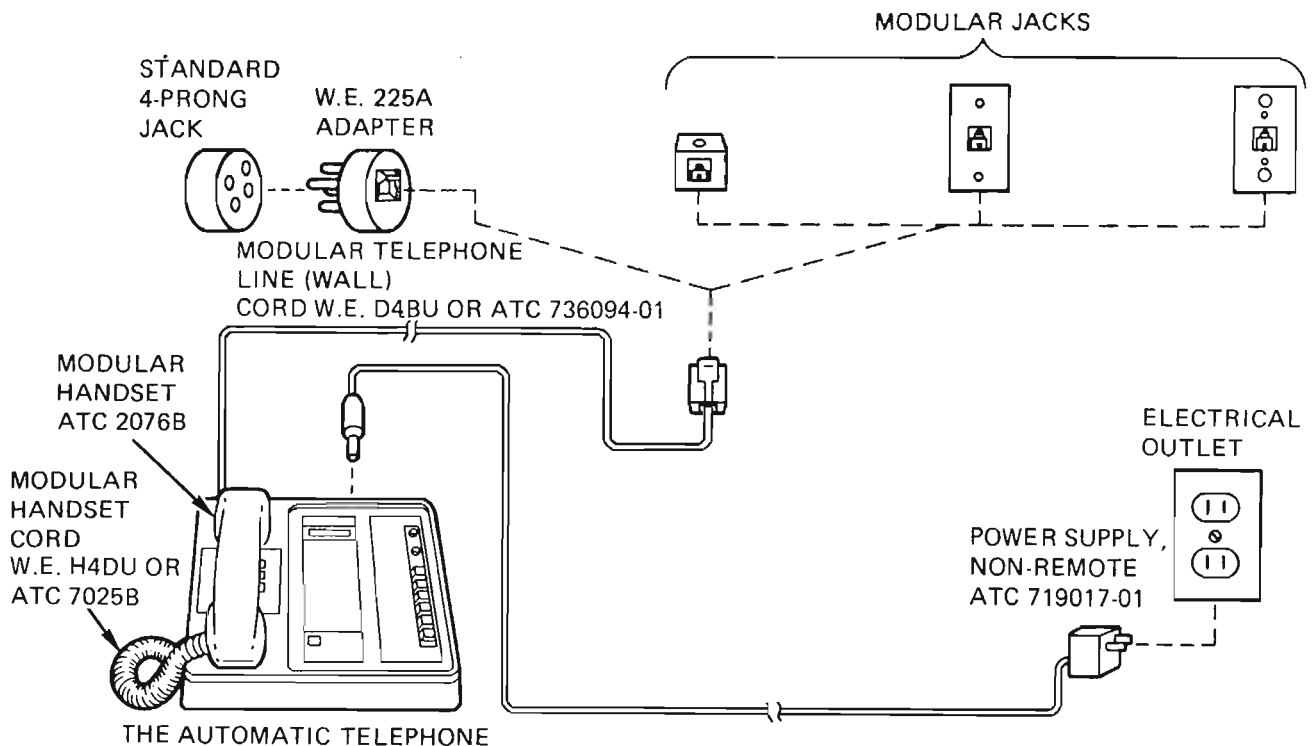

Fig. 3—Model 1000T Connection Diagram
3.01 Installation of the AutoMatic TelePhone consists of selecting operating modes, connecting the set to the telephone wall plug (Fig. 3), and applying power to the set.
3.05 The AutoMatic TelePhone comes with a modular telephone line cord that will plug into a modular jack or into a 225A adapter which will connect into a standard four prong wall mounted jack (Fig. 3).
3.06 Referring to Fig. 3, locate The AutoMatic TelePhone near a Telephone Company installed jack (either a standard 4-prong jack or a minimodular jack) and near a standard 115 volt ac outlet which is not controlled by an ON-OFF switch. Connect The AutoMatic TelePhone as follows.